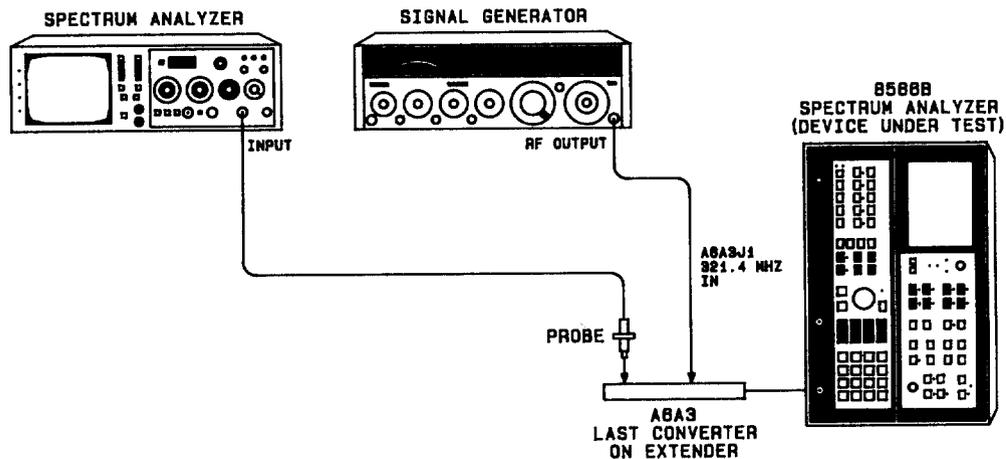

FIGURE 64. LAST CONVERTER ADJUSTMENTS SETUP
2. Remove RF Section right side cover and remove two screws attaching A6A3. Remove A6A3 Last Converter and place on extender board. Place instrument on right side as shown in Figure 64.